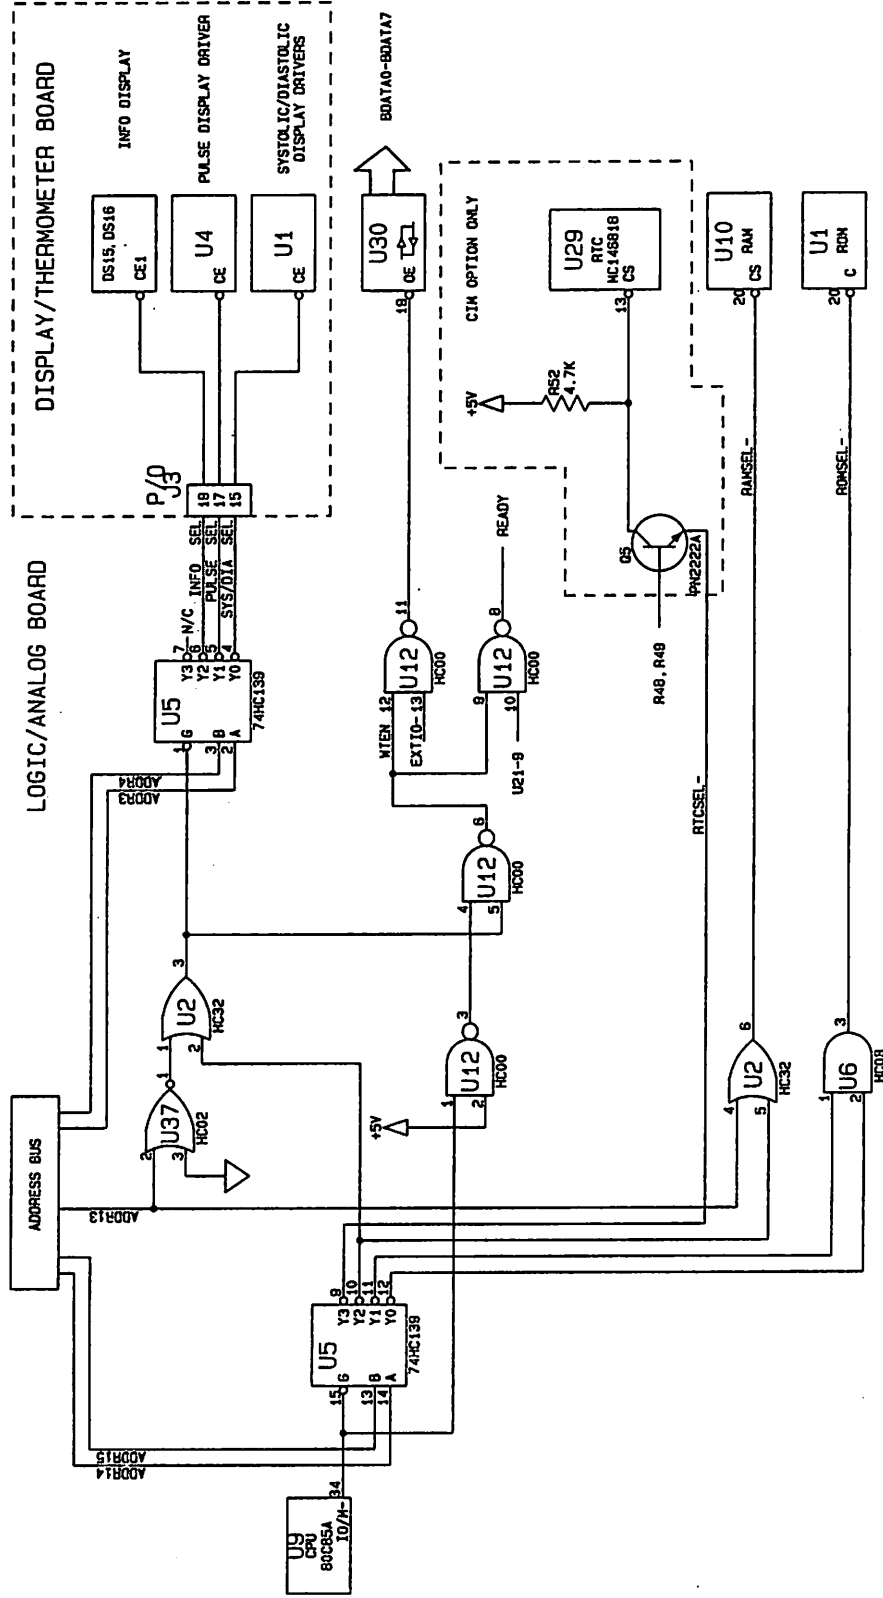

Figure 3-7. Memory Address Decoder and Display Drivers
3.3 MEMORY ADDRESS AND DISPLAY DECODING (figure 3-7)
Displays are memory-mapped (figure 3-7). The displays consist of two alphanumeric DL2416s (giving eight-character message capacity) and separate 3-digit LED displays for systolic blood pressure, diastolic blood pressure, and pulse.